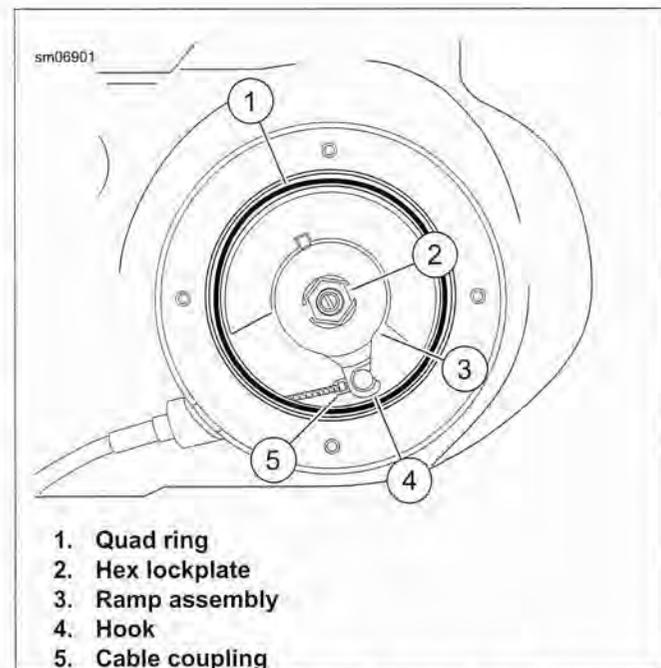
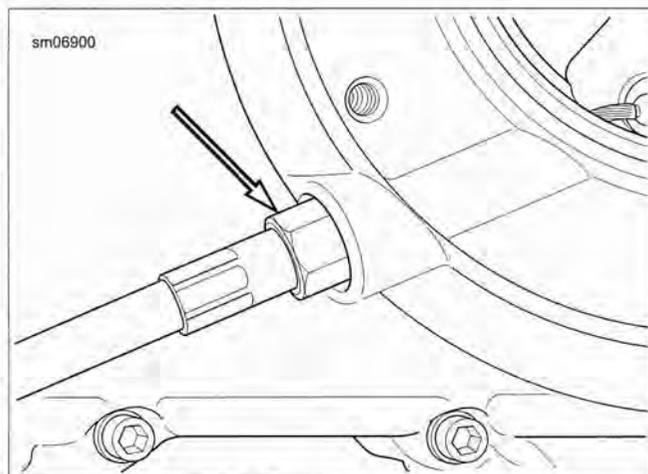

Figure 5-2. Clutch Release Ramp
Figure 5-4. Clutch Cable Fitting
4. Loosen locknut (2). Turn chain adjuster screw (3) counterclockwise to relax primary chain tension.
5. Remove gear shift lever (4) and rubber washer from transmission shifter shaft.
7. Remove the clutch inspection cover (5).
8. See Figure 5-2. Remove the quad ring (1) from the groove in the primary cover. Discard the quad ring.
9. Slide hex lockplate (2) and attached spring from flats of adjusting screw.
10. Turn adjusting screw clockwise to release ramp assembly (3) and coupling mechanism. As the adjusting screw is turned, ramp assembly moves forward. Remove nut from end of adjusting screw.
11. Remove hook (4) of ramp (3) from cable coupling (5). Remove clutch cable end from slot in coupling. Remove coupling and ramp assembly.
12. See Figure 5-4. Turn cable end fitting counterclockwise to remove clutch cable lower section from primary cover. Remove and discard O-ring from cable end fitting.